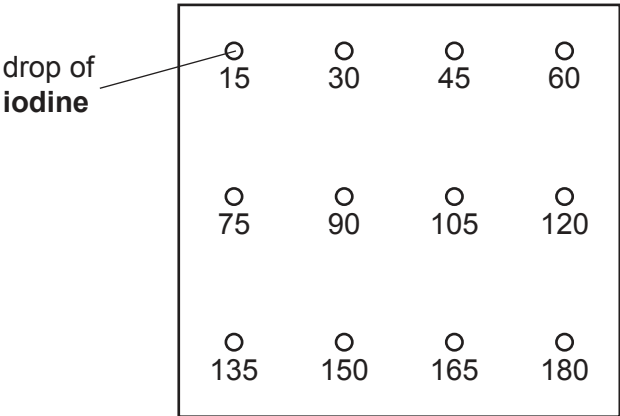

Fig. 1.1
- step 3 Label the white tile with the numbers shown in Fig. 1.1.
- step 4 Put **one** drop of **iodine** on the white tile at each sampling time, as shown in Fig. 1.1.
- step 13 Put **one** drop of **iodine** on the white tile at each sampling time, as shown in Fig. 1.1.
step 15 Put **one** drop of **iodine** on the white tile at each sampling time, as shown in Fig. 1.1.